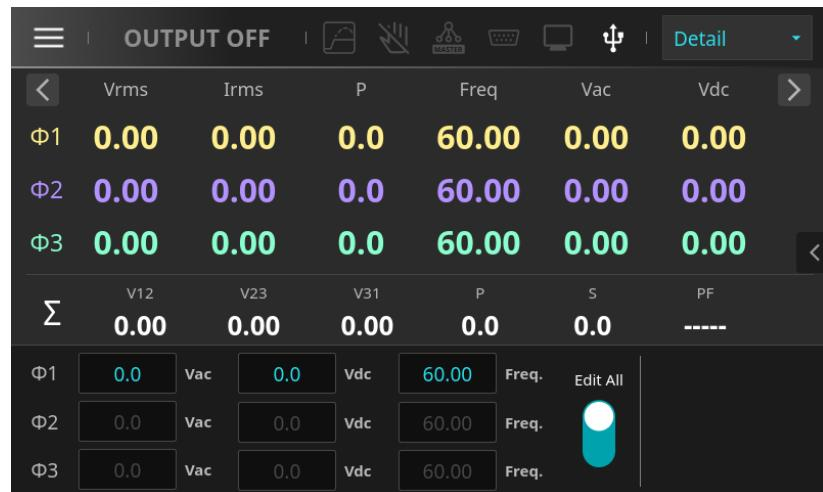

Figure 4-31: Three-Phase Mode Main Screen – Balanced Mode with Phase Voltage Setting (Phase)
6. Tap the Home button  to return to the main screen. As shown in Figure 4-31, the voltage and frequency across the three phases are equal, and the voltage is set to Phase.